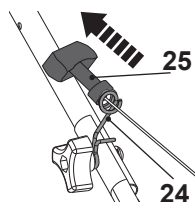

Fig. 13
3. Always rest the recoil starter handle (25) onto the hook (24) located on the right-hand side of the upper handle bar (1) (Fig. 13) when the recoil starter is not operated.